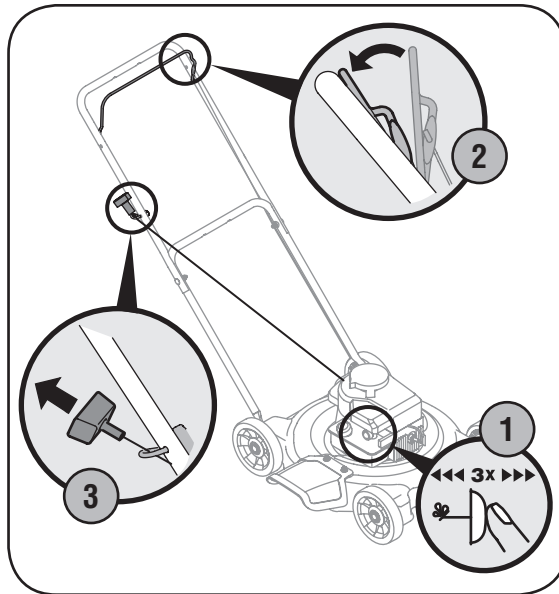

Figure 4-2: To start mower, prime the engine, squeeze blade control handle, and pull recoil starter.
1. Push primer three times. Wait about two seconds between each push. See Figure 4-2. In temperature around 55°F or below, prime five times. Do not prime to restart a warm engine.
2. Standing behind the mower, squeeze the blade control against upper handle. See Figure 4-2.
3. Holding these two handles together firmly, grasp recoil starter handle and pull rope out with a rapid, continuous, full arm stroke. See Figure 4-2. Keeping a firm grip on the starter handle, let the rope rewind slowly. Repeat until engine cranks. Let the rope rewind each time slowly.